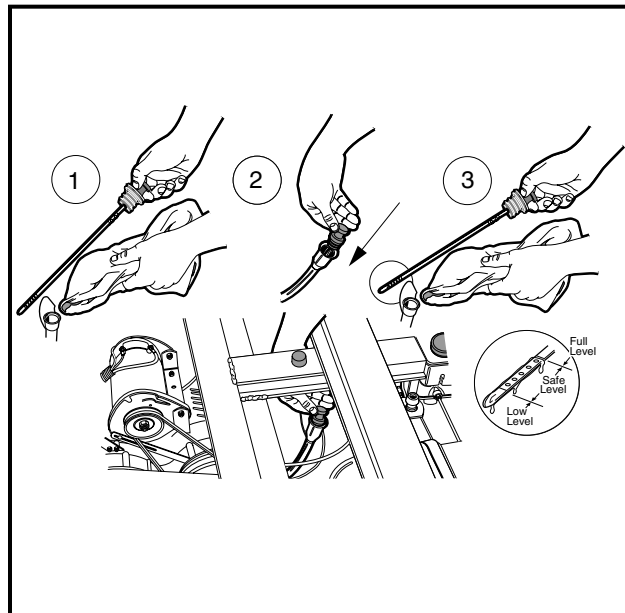

Figure 13-12 Check Engine Oil Level
9. Check engine oil level (**Figure 13-12, Page 13-10**).